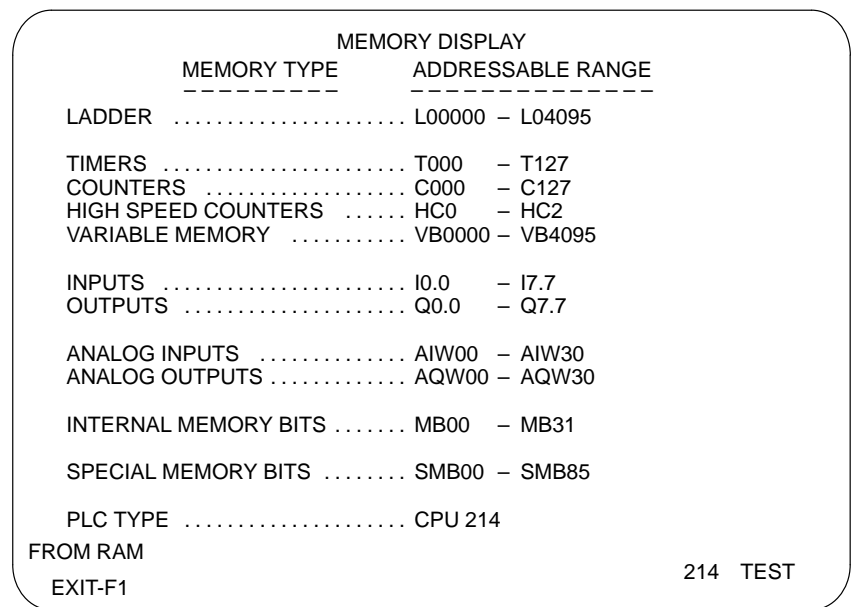

Figure C-6 Memory Display Screen
2. Press **DISPME-F3** (display memory) to see the memory configuration. Your memory configuration display varies according to CPU model. The line at the bottom of the memory display, **PLC TYPE**, shows the CPU model number. The display shown in Figure C-6 is for a CPU 214.